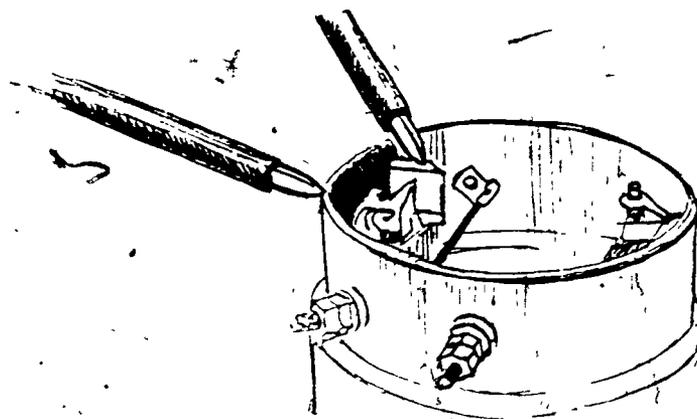

FIGURE 10
11. Check insulated brush holder for ground (Figure 10)